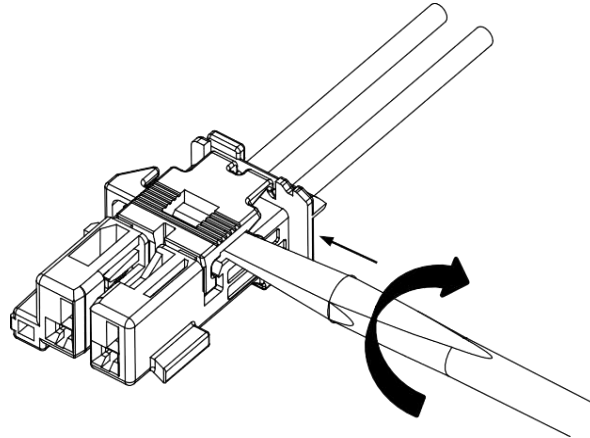

Figure 7
- a. Insert the tip of a 3- or 4-mm flat blade screwdriver between the housing and ISL. Refer to Figure 7. One side of the ISL will typically unlatch due to the insertion of the screwdriver.
- b. Rotate the screwdriver to unlatch the other side of the ISL. The ISL is now in the open position and will unlock the contacts from the plug and cap assembly. See Figure 7.